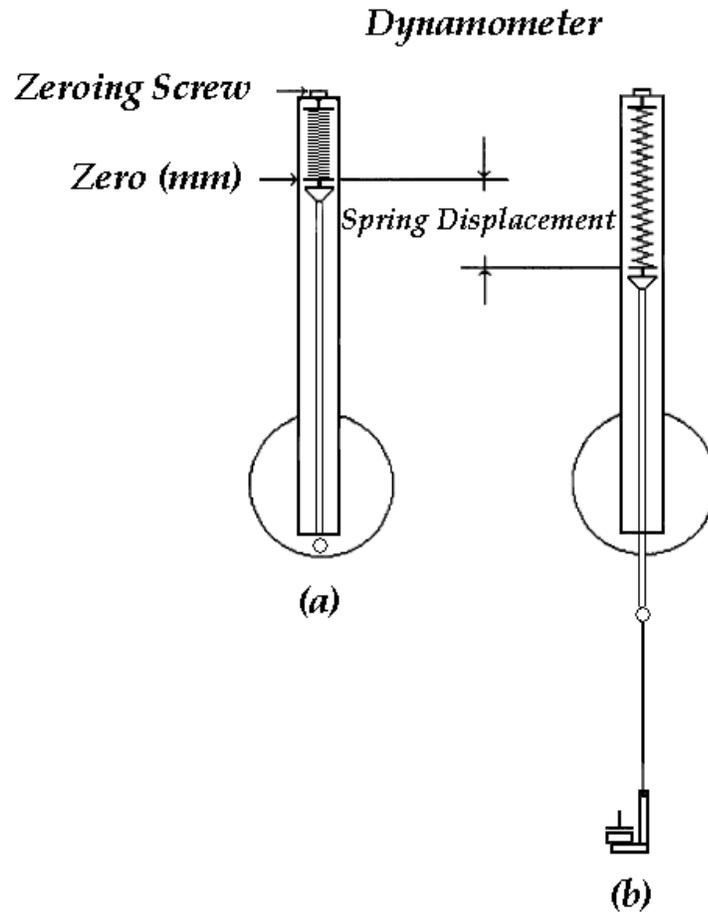

Figure 2. (a) The Dynamometer with its natural length
- 1) **Hang** the spring balance on the experimental board (Figure 2.). Be sure the spring hangs vertically in the plastic tube.
- 2) With no force applied to the spring balance, **adjust** the zeroing screw on the top of the spring balance until the indicator is aligned with the 0 mm mark on the millimeter scale of the spring balance as shown in Figure 2(a).
- 4) **Measure** the spring displacement Δy on the millimeter scale as shown in Figure 2(b). **Record** the values of the total mass m_{total} and the spring displacement Δy in Table 5.1.
- 7) **Calculate** the spring constant k using Equation (4).